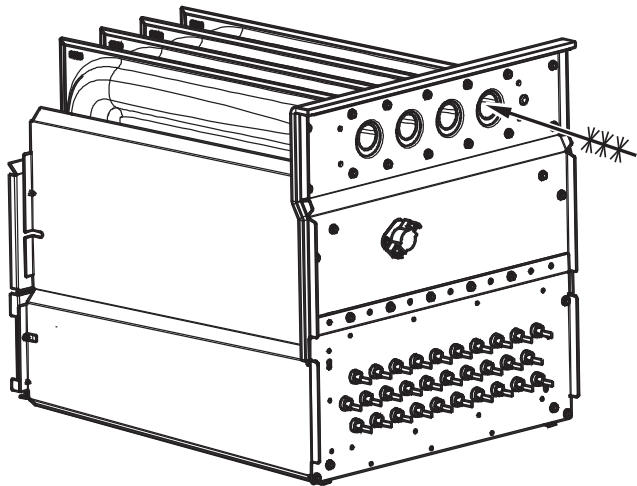

Fig. 65 - Cleaning Heat Exchanger Cell
7. Clean heat exchanger openings with a vacuum and a soft brush. See Fig. 65.